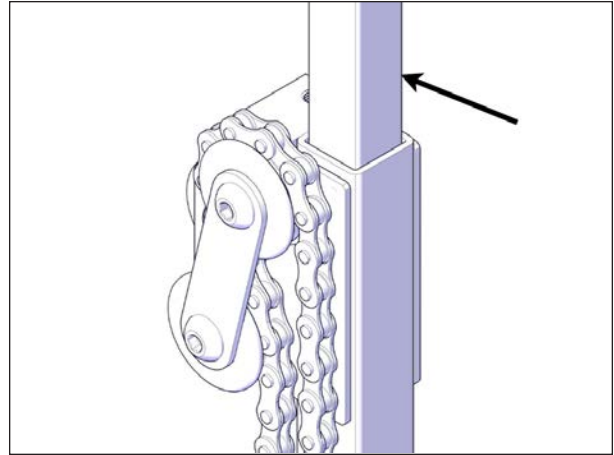

FIGURE 91: SLIDING PARTS GREASING
8. Spray grease on all the sliding parts and mechanical components for all four jacks see Figure 91.